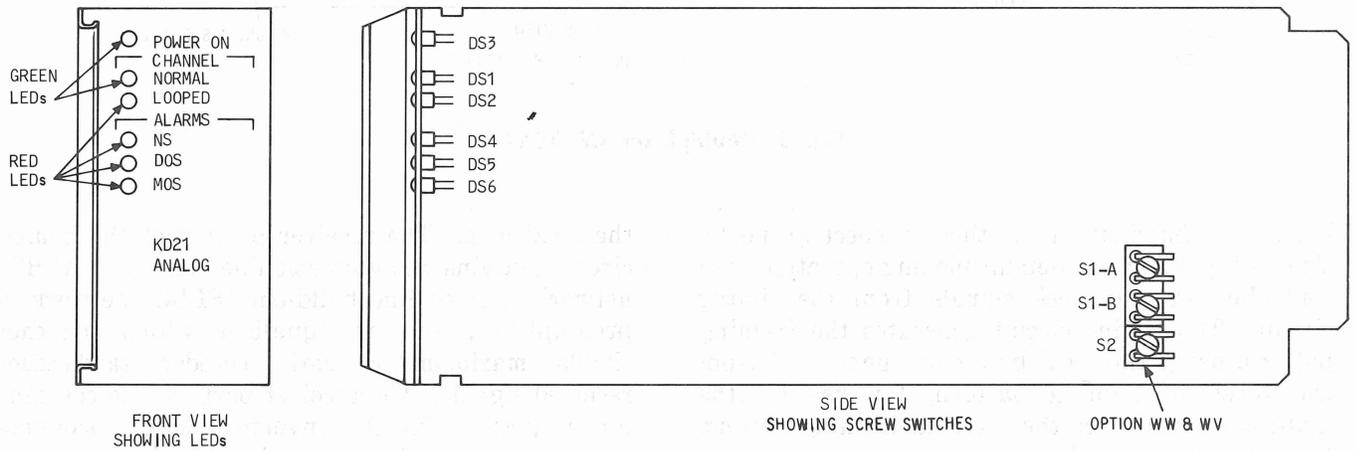

Fig. 4—Analog CP KD21
- Analog CP KD21 (Fig. 4)—One required per DSU. The faceplate of this CP contains four red (LOOPED, NS, DOS and MOS)